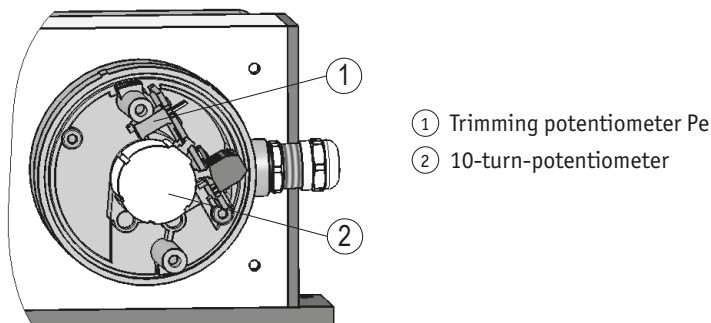

Fig. 18: Setting the trimming potentiometers MWU
By means of the trim potentiometer Pe ① (see Fig. 18), this value can be adjusted to the actual final position of the application.